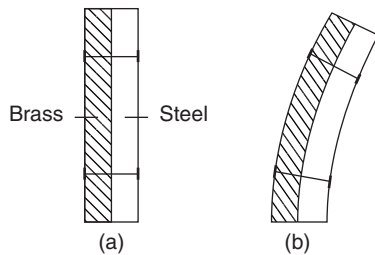

Figure 20.1
- The amount of expansion varies with different materials. Figure 20.1(a) shows a bimetallic strip at room temperature (i.e. two
different strips of metal riveted together). When heated, brass expands more than steel, and since the two metals are riveted together the bimetallic strip is forced into an arc as shown in Figure 20.1(b). Such a movement can be arranged to make or break an electric circuit and bimetallic strips are used, in particular, in thermostats (which are temperature-operated switches) used to control central heating systems, cookers, refrigerators, toasters, irons, hot-water and alarm systems.